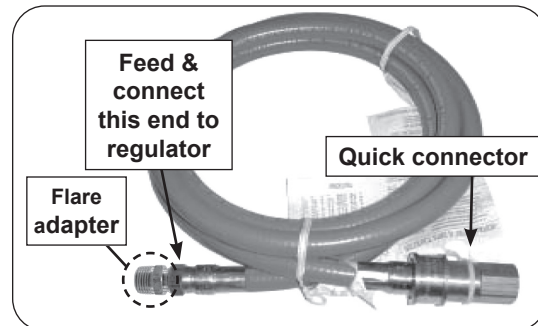

Fig. 3-1 Quick connect hose
1. Detach the 1/2" pipe to 1/2" flare adapter that is loosely attached to the quick connect hose (see Fig. 3-1).